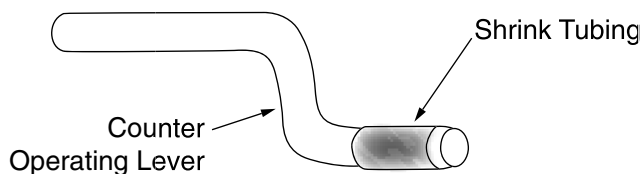

Figure 11. Installation of heat-shrinkable tubing onto counter lever.
1. Position heat-shrink tubing, Item 7, on the counter lever, so it will contact counter arm as it actuates. See Figure 11.